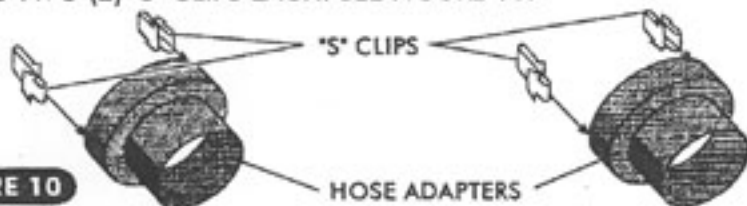

FIGURE 10
- INSTALL DEFROST DUCT HOSE ADAPTERS TO EXISTING FACTORY DEFROSTER OUTLETS USING TWO (2) "S" CLIPS EACH. SEE FIGURE 10.